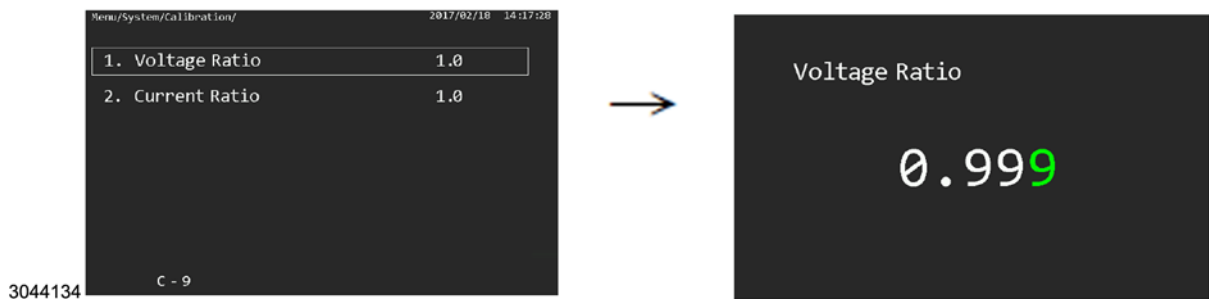

FIGURE 4-3. VOLTAGE RATIO CALIBRATION
- After entering the password, the touchscreen shows selections for **1. Voltage Ratio** and **2. Current Ratio**. Select **1. Voltage Ratio** using either the touch screen or **SELECT** encoder and **ENTER** switch (see Figure 4-3). The previous voltage ratio is displayed.